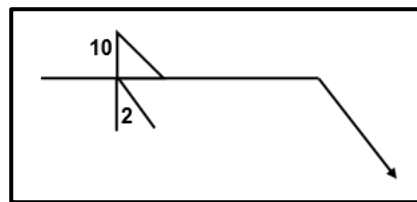

FIGURE 4.2
- D Fly press (1)
4.2 What does the 10 on the weld symbol in FIGURE 4.2 below represent?